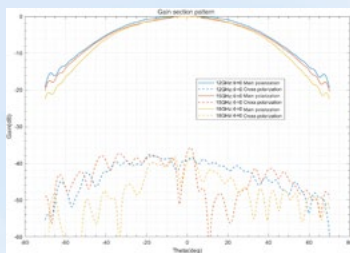
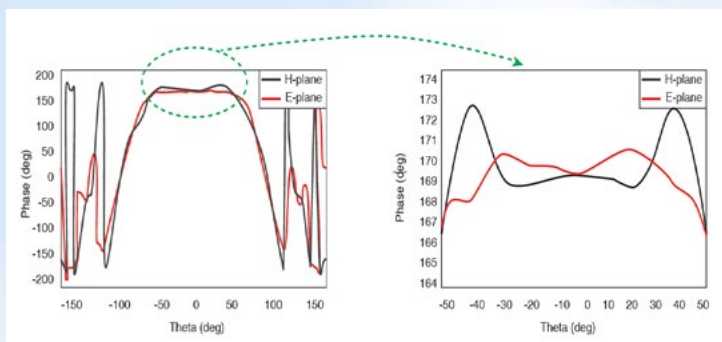

Figure 4: Wide-Angle Low Cross-Polarization Performance
Figure 5: Wide Beamwidth And High Phase Stability Of Corrugated Horn Antenna
-40dB cross-polarization within an angular range of $\pm 20^\circ$ (see figure 4). These feeds exhibit phase fluctuations of less than 5° within an angular range of $\pm 50^\circ$, ensuring excellent symmetry characteristics and representing cutting-edge performance (see figure 5). The wide bandwidth and high phase stability minimize phase fluctuations in the quiet zone, and the integrated design with absorbers ensures low Radar Cross Section (RCS) characteristics of the feed horn.